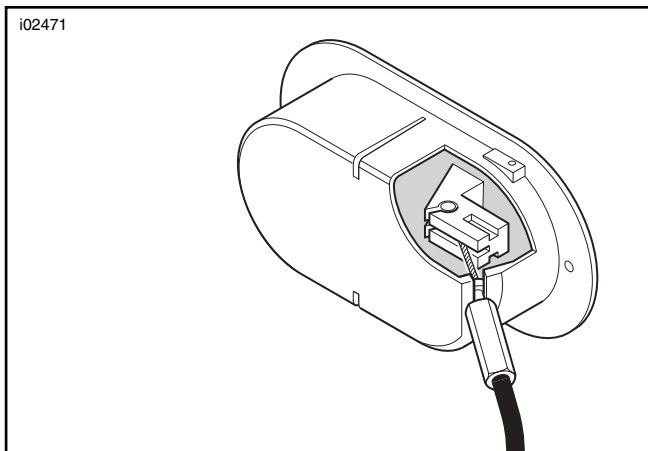

Figure 6. Cable Properly Installed In Handle
6. Capture the collar on the cable sheath in the slot of the new handle housing as shown in Figure 6. Push the collar into the slot as far as it will go.